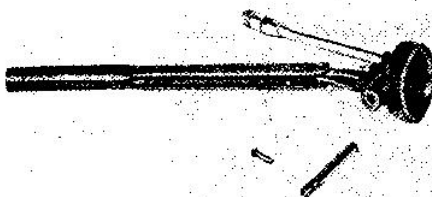

Figure 19 - Remove piston.
- d. Remove assembly from vise and slide piston out of cylinder head (Fig. 19).